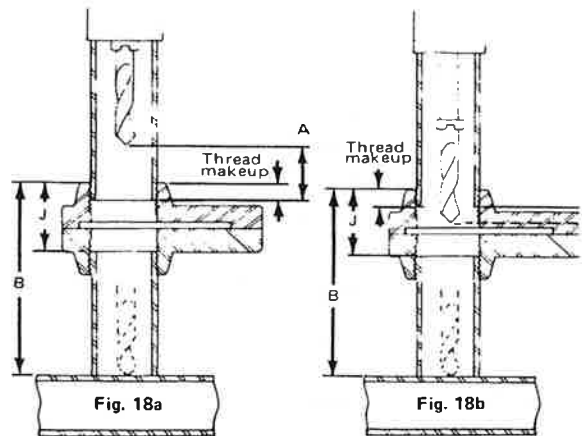

Figure 18. Calculate Distance
- B. Calculate lower-in distance required for drill tip to contact pipe. (Boring bar fully retracted and feed tube at zero mark on body tube.) See Figure 18.